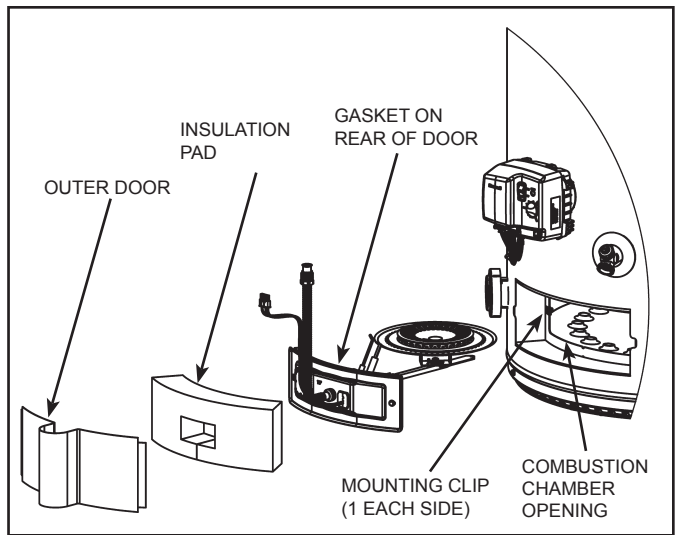

Figure 9. Burner Chamber Compartment Doors
9. Remove inner door/manifold/burner assembly by grasping the manifold and pull back slowly. Rotating it to the left to clear the igniter and flame sensor. Care should be taken when inner door and burner assembly passes through jacket opening that it does not damage any of the electrical wiring. See *Figure 9* (page 10).
Note: If the burner door gasket is worn or damaged it needs to be replaced. See *Replacing The Door Gasket*. (page 3). See *Figure 9* (page 10).
Note: If the burner door gasket is worn or damaged it needs to be replaced. See **Replacing The Door Gasket**. (page 3). See also **Figure 9** (page 8).
Note: If the burner door gasket is worn or damaged it needs to be replaced. See **Figure 9** (page 10). See also **Replacing The Door Gasket.** (page 3).